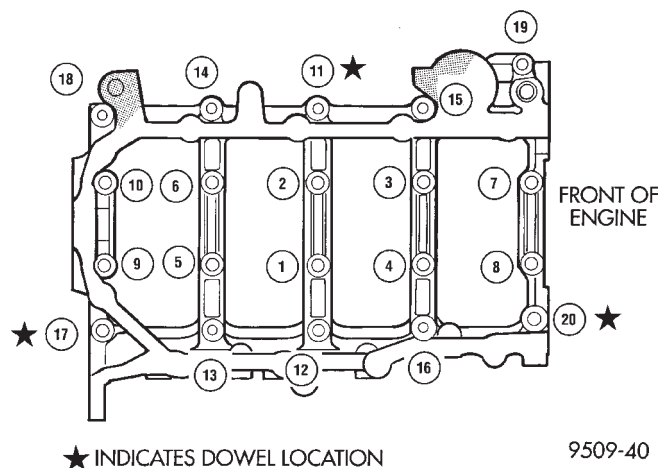

Fig. 67 Main Bearing Caps/Bedplate Torque Sequence
(6) Before installing the bolts oil threads with clean engine oil, wipe off any excess oil.
(7) Install main bearing bedplate to engine block bolts 11, 17 and 20 finger tight. Tighten this bolts down together until the bedplate contacts the cylinder block. Torque bolts to 30 N·m (22 ft. lbs.) (Fig. 67).
(8) Install main bearing bedplate to engine block bolts (1 thru 10) and torque each bolt to 81 N·m (60 ft. lbs.) in sequence shown in (Fig. 67).
(9) Install main bearing bedplate to engine block bolts (11 thru 20), with baffle studs in positions 12, 13 and 16 and torque each bolt to 30 N·m (22 ft. lbs.) in sequence shown in (Fig. 67).
(10) After the main bearing bedplate is installed, check the crankshaft turning torque. The turning torque should not exceed 5.6 N·m (50 in. lbs.).
(11) Install oil pump. If crankshaft end play is to be checked refer to service procedures in this section.
(12) Install crankshaft sprocket.
(13) Install oil filter adapter and filter.
(14) Install oil pan and collar. Refer to procedures outlined in the section.
(15) Perform camshaft and crankshaft timing relearn procedure as follows: